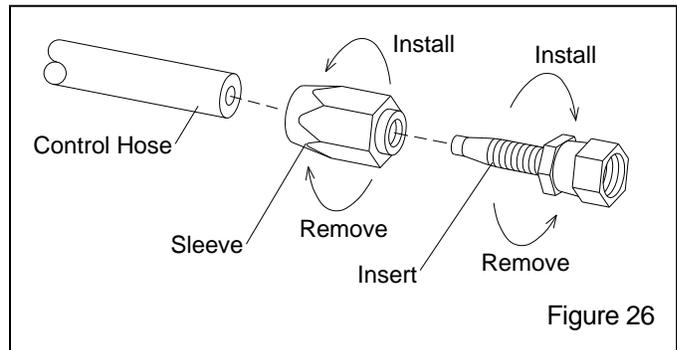

Figure 26
**6.10 Remove and Install Reusable Control Hose Fittings - Figure 26**